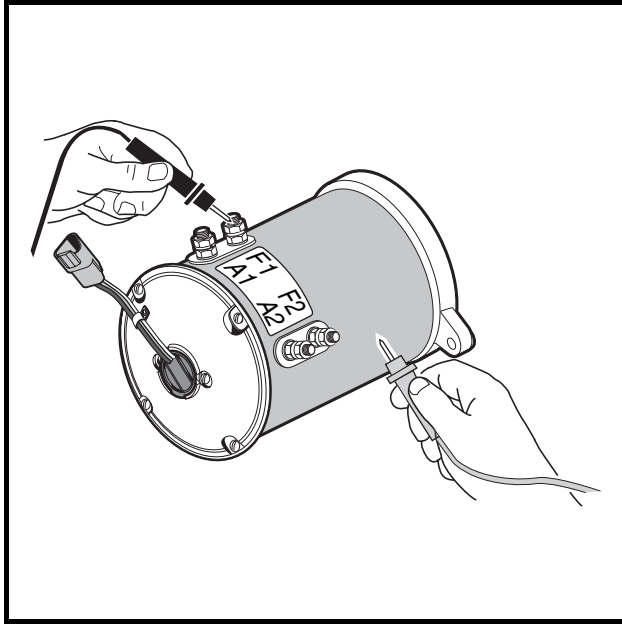

Figure 16-1 Motor Short Circuit Test
3. With a multimeter to 200 ohms, place black (–) probe on motor housing. Scratch through paint to ensure a good connection. Place red (+) probe on A1, A2, F1, and F2 terminals respectively (**Figure 16-1, Page 16-2**). Multimeter should indicate no continuity. If readings are incorrect, motor will need to be removed from the vehicle and repaired by a qualified technician. See **Motor Removal on page 16-3.**